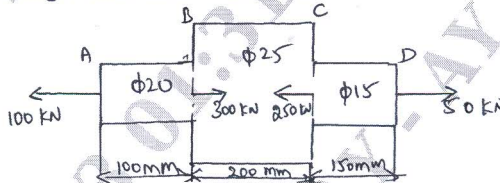

Fig.Q2(b)
- b. Determine the stresses in various segments of circular bar shown in Fig.Q2(b). Compute the total Elongation taking Young's modulus = 195 GPa.